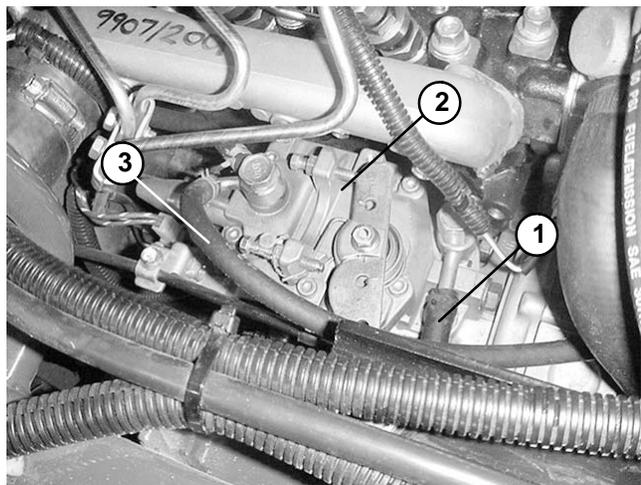

Figure 24
E. Disconnect fuel hose from the injector pump that goes to the fuel tank (Fig. 24). Loosen clamps (19 and 20) to allow removal of the hose (Fig. 18).
F. Disconnect fuel hose coming from the fuel filter/water separator at the injector pump inlet (Fig. 24).